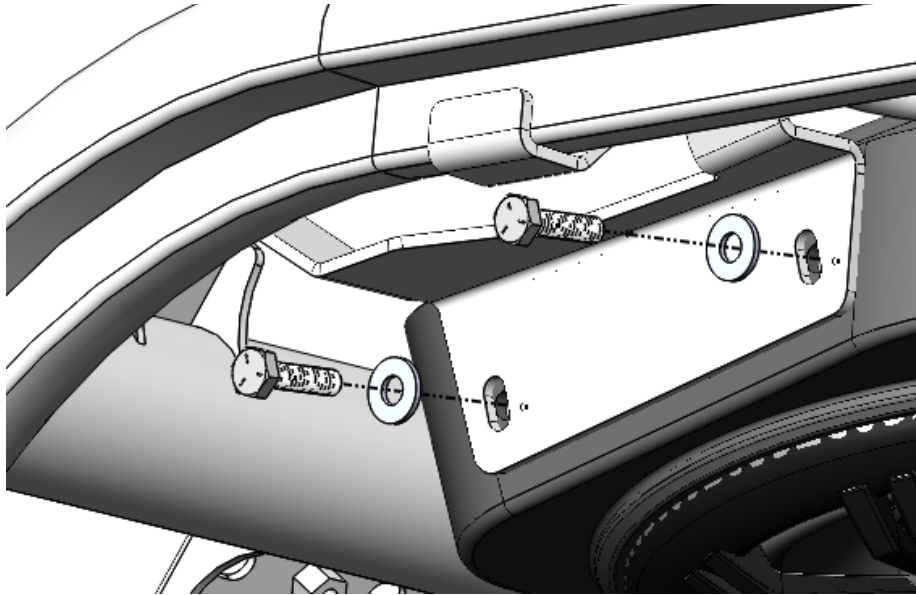
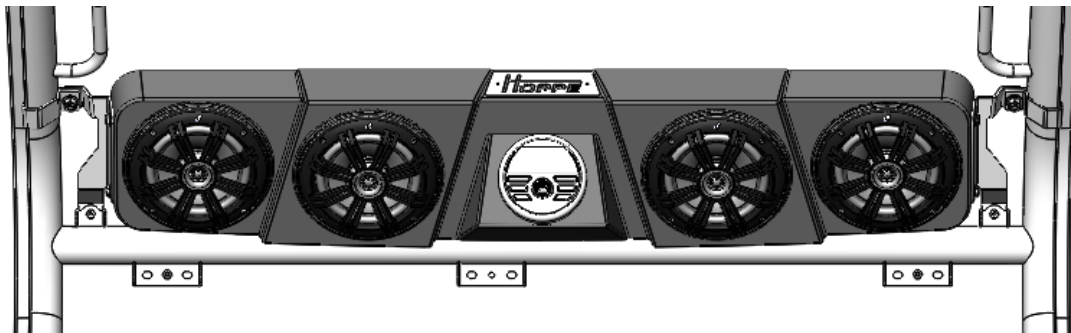

Figure 6: Install the $\frac{1}{4}$ "-20 bolts and washers to mount the Audio Mini to the brackets.
Figure 7: Loosely install the sound system on the mounting brackets.
6. Using an assistant, hang the *Audio Mini* off-road sound system on the brackets using the supplied $\frac{1}{4}$ "-20 bolts and washers (loosely tightened). **Note: The sound system weighs up to 25 lbs. Since you will have to lift and bolt each end, it is helpful to have an assistant for this step.** See Figure 6 and Figure 7.